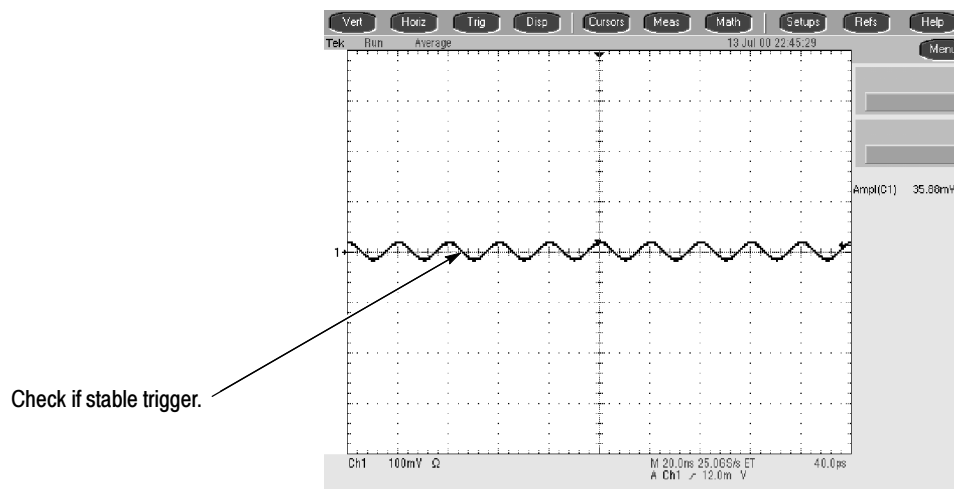

Figure 4-20: Measurement of trigger sensitivity - 50 MHz results shown
- CHECK that a stable trigger is obtained for the test waveform for both the positive and negative slopes of the waveform. Use the **TRIGGER LEVEL** knob to stabilize the Main trigger. Touch **B Trig Level** and use the keypad or the multipurpose knob/FINE button to stabilize the Delayed trigger. Touch one of the Slope buttons to switch between trigger slopes. See Figure 4-20 on page 4-52.